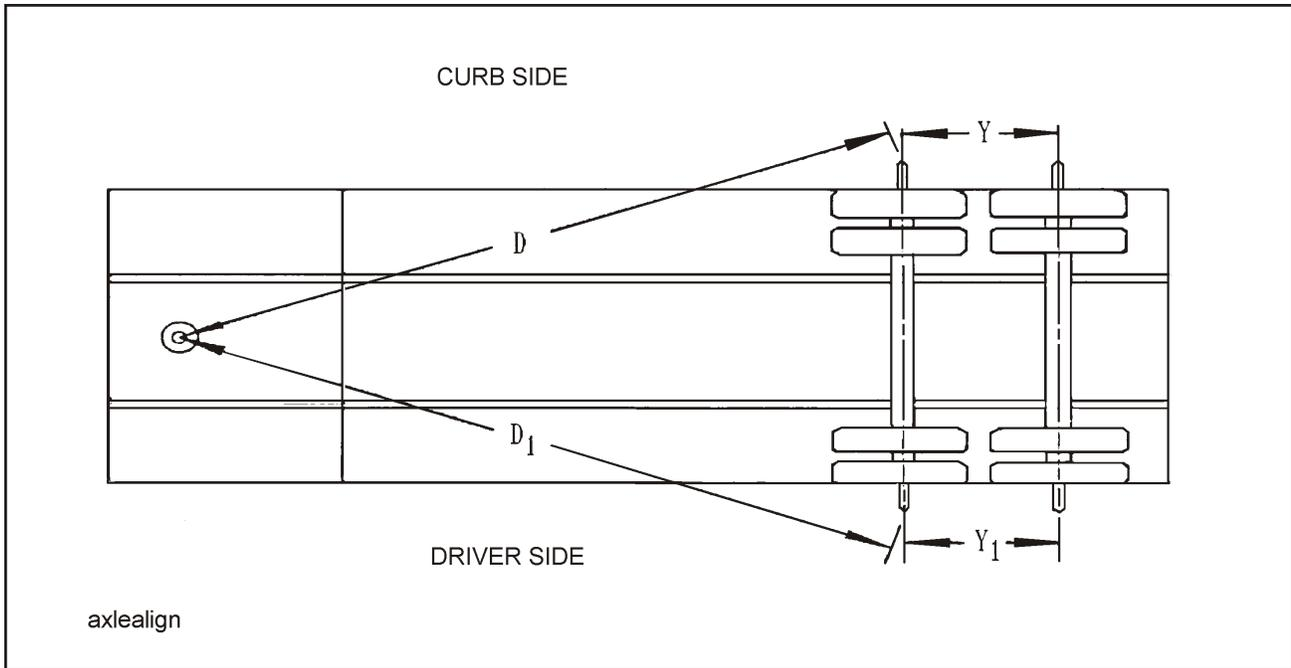

FIGURE 4-6 CHECKING AXLE ALIGNMENT
4. Measure (D) from the plumb bob to the center point on one end of the axle. Record this measurement (**See Figure 4-6**).
5. Measure (D1) to the other end of the axle in the same manner as in **Step 4.** Record this measurement (**See Figure 4-6**).